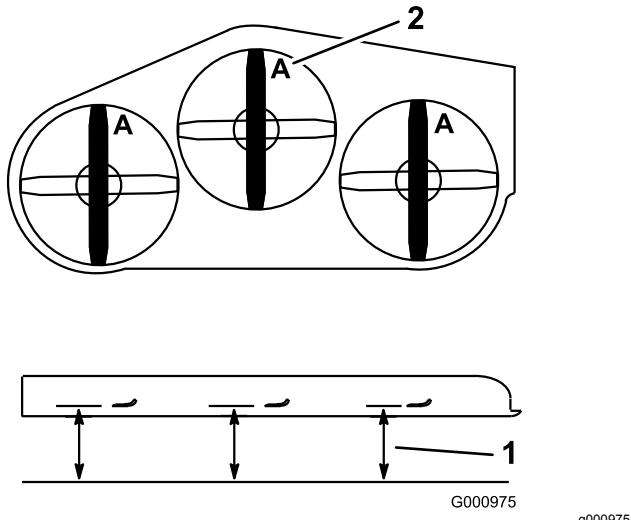

Figure 75
4. Measure from a level surface to the cutting edge, position **A**, of the blades (Figure 75).